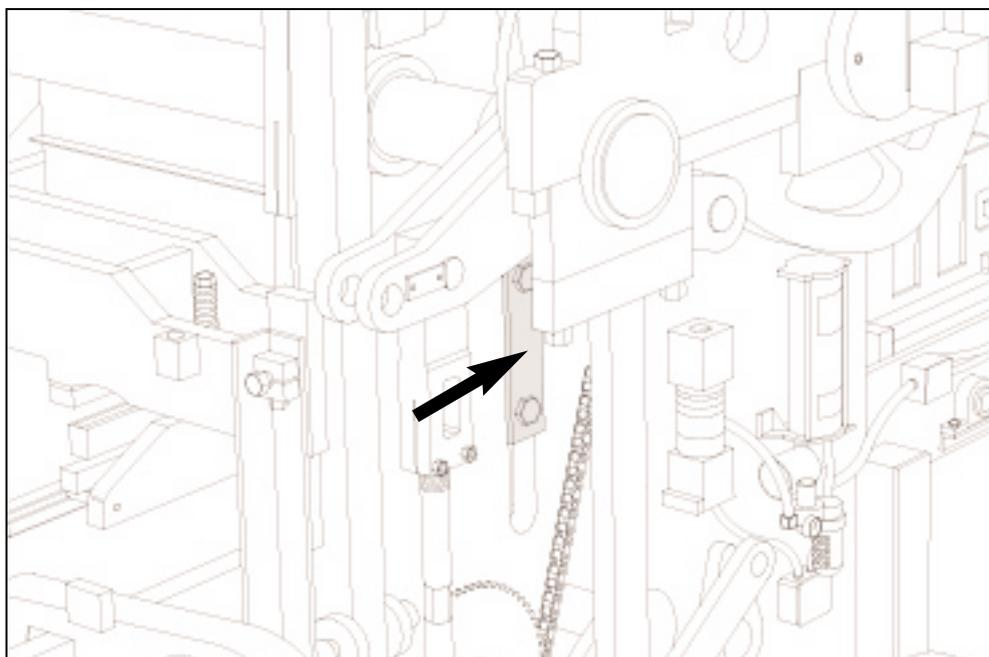

Figure 18.6 LOOSEN "T" CLAMPS ON BOTH SIDES.
a. Loosen the "T" clamps on each side of machine that secure machine side plate to mold throat plate. (Figure 18.6)